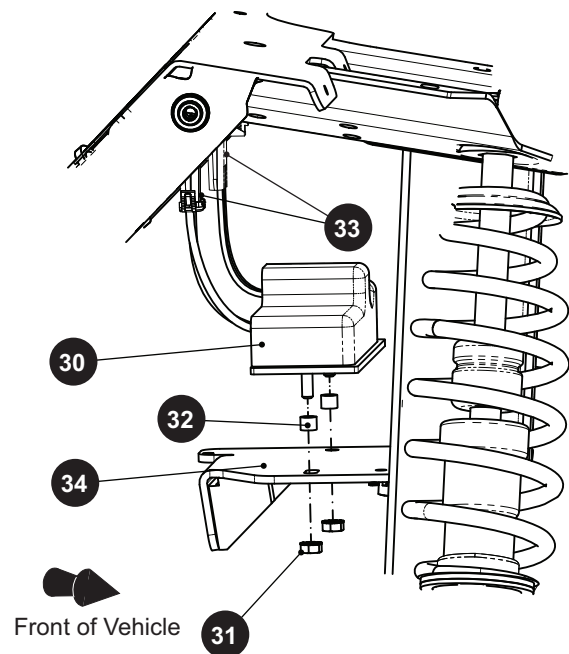

Fig. 12 DC to DC Converter
2. Disconnect the electrical connectors (33).
3. Remove the two nuts (31) that secure the DC to DC converter (30) to the frame (34).
4. Remove the DC to DC converter (30) from the vehicle retaining the spacers (32) for reuse during the installation (Ref. Fig. 12).